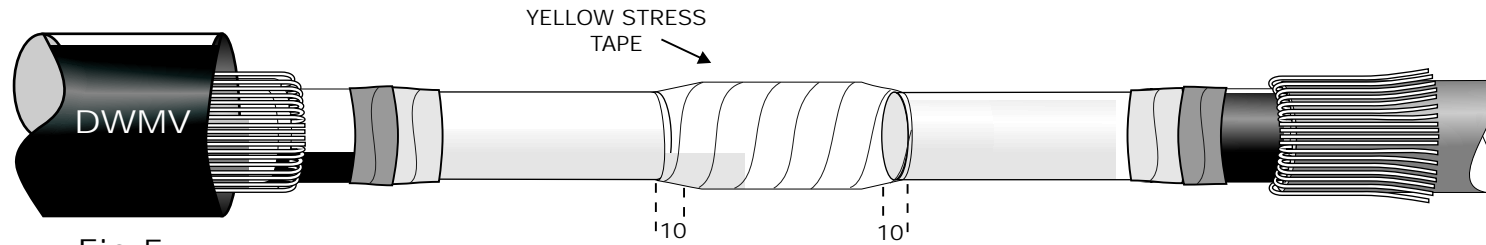

Fig 5
8. Wrap the Yellow Stress Tape (TS 31785Y) around the Connector area with stretch and ½ width overlap. Extend the Tape onto the Primary Insulation by 10mm either side as shown in Fig 5.